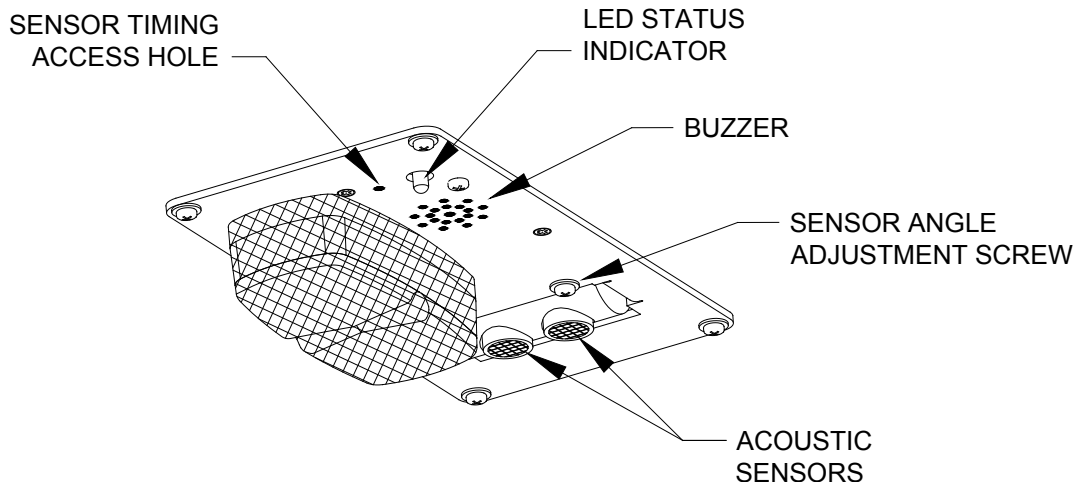

FIGURE 6: TWS MODULE DETAIL
3. Refer to **FIGURE 6**. Turn sensor angle adjustment screw clockwise to move direction of beam away from center aisle and towards doorway. Stop adjustment when LED ceases to flash.
2. Refer to **FIGURE 6**. Note the sensor timing access hole. This hole provides access to a plunger actuated switch that sets the sensor timing. Insert a 1/16" (2 mm) diameter wire-like object into the access hole and press the plunger inward. The LED will flash momentarily while the module establishes the distance and then remain on steady. Release the plunger when the LED ceases to flash.